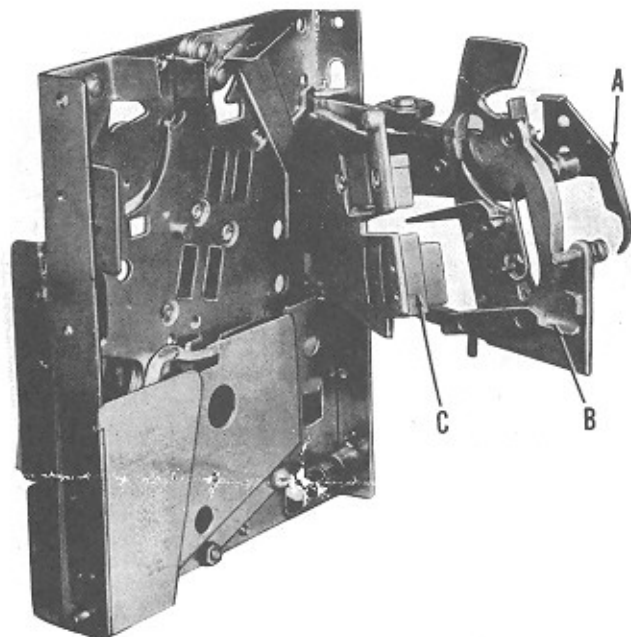

Fig. 7 - Slug Rejector
3. Slug rejector should be cleaned once a month. To clean—swing parts (A, B and C-Fig. 7) away from unit. Use small, soft bristle brush and carbon tetrachloride for cleaning. Never use cloth as lint may clog unit. Always protect slug rejector when cleaning or repairing as magnets will attract small filings, screws, nuts, etc. Never lubricate slug rejector.